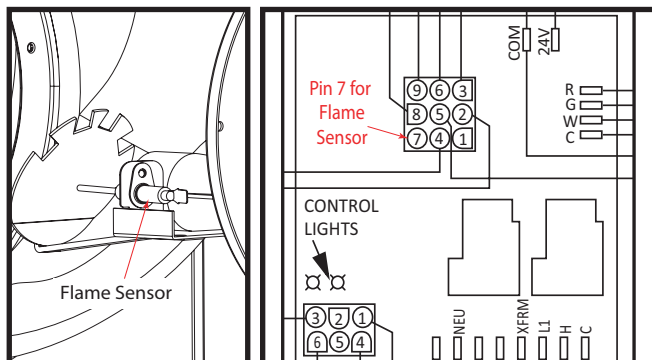

Figure 2. Flame Sensor Wiring for UTEC Board
6. Locate the red wire included in the kit. Insert into location 7 per Figure 2.